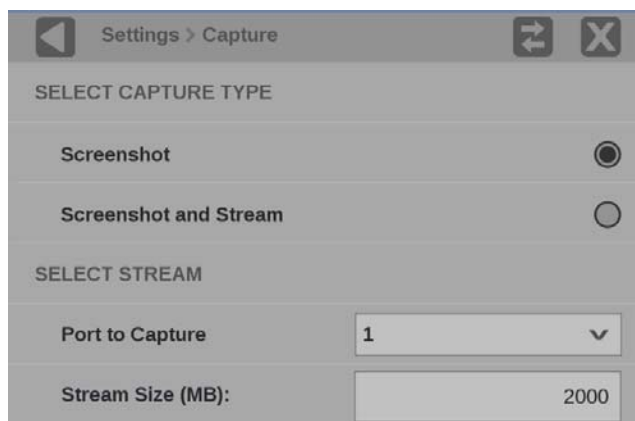

Figure 64: Selecting Screenshot
2. Select **Screenshot** under SELECT CAPTURE TYPE. (See Figure 64.)